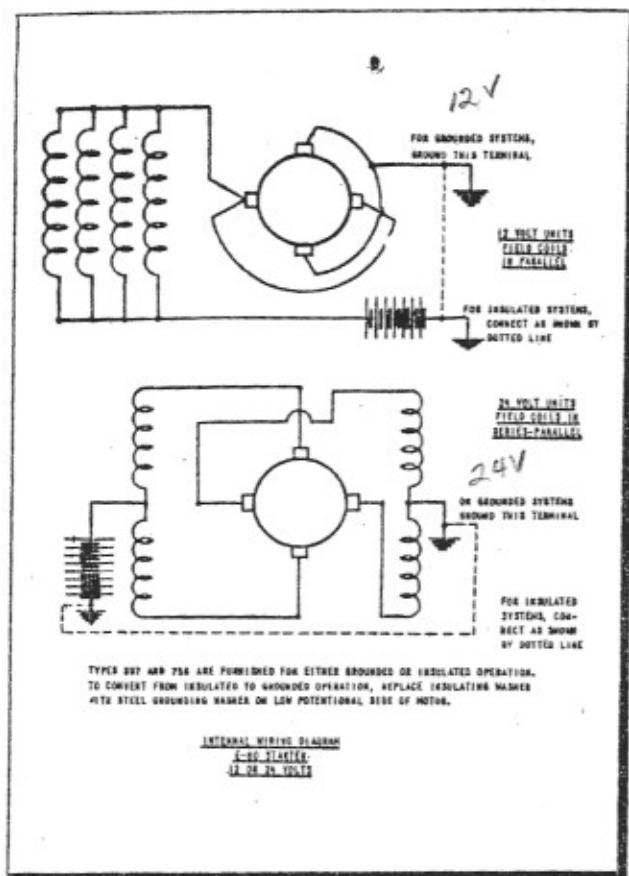

Figure 1
(1) OPEN FIELD CIRCUIT.—Due to the fact that the field coils on 12-volt motors are connected in parallel and thus have a very low field resistance, it is impossible to obtain a positive check on open circuits either by a test lamp circuit or by a Wheatstone bridge, unless all four coils are open. The presence of an open coil can best be determined after assembly when running performance tests. This condition may be detected by a low torque output accompanied by an excessive high current draw under load run. The field coils of 24-volt units, however, are connected in series, parallel through the armature (figure 1), and will give positive results when a test lamp circuit is connected across the brush terminals. Connect one terminal of the test lamp circuit to any one of the brush terminals and touch the other terminal of the test lamp to the opposite brush terminal. Repeat this procedure on the other pair of field coils and if, in either case, the lamp does not light, replace the pair of field coils.